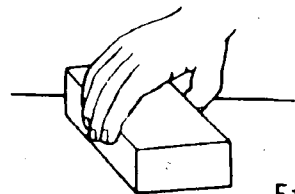

Fig. 7
c) Lightly rub the surface to be scraped against the dyed surface of the checking device (Fig. 7).